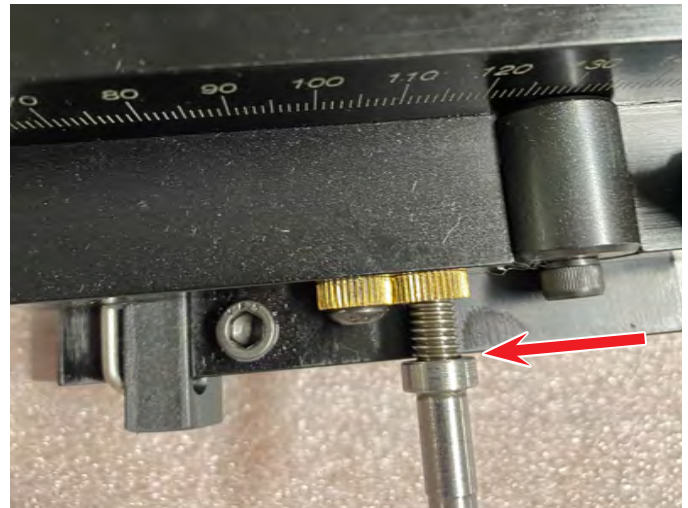

FIGURE 14—The red arrow shows the adapter close to the base.
O. Thread the slide screw in until the adapter collar is almost to the end of the base (see Figure 14).